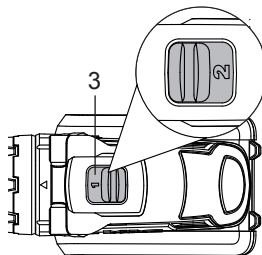

Fig. 13
The two-speed gear control (4) is used to switch between two working modes. When the gear is set to position **1**, the speed will decrease and the drill will have greater power and torque. When the gear is set to position **2**, the speed will increase and the drill will have less power and torque (Fig. 13)